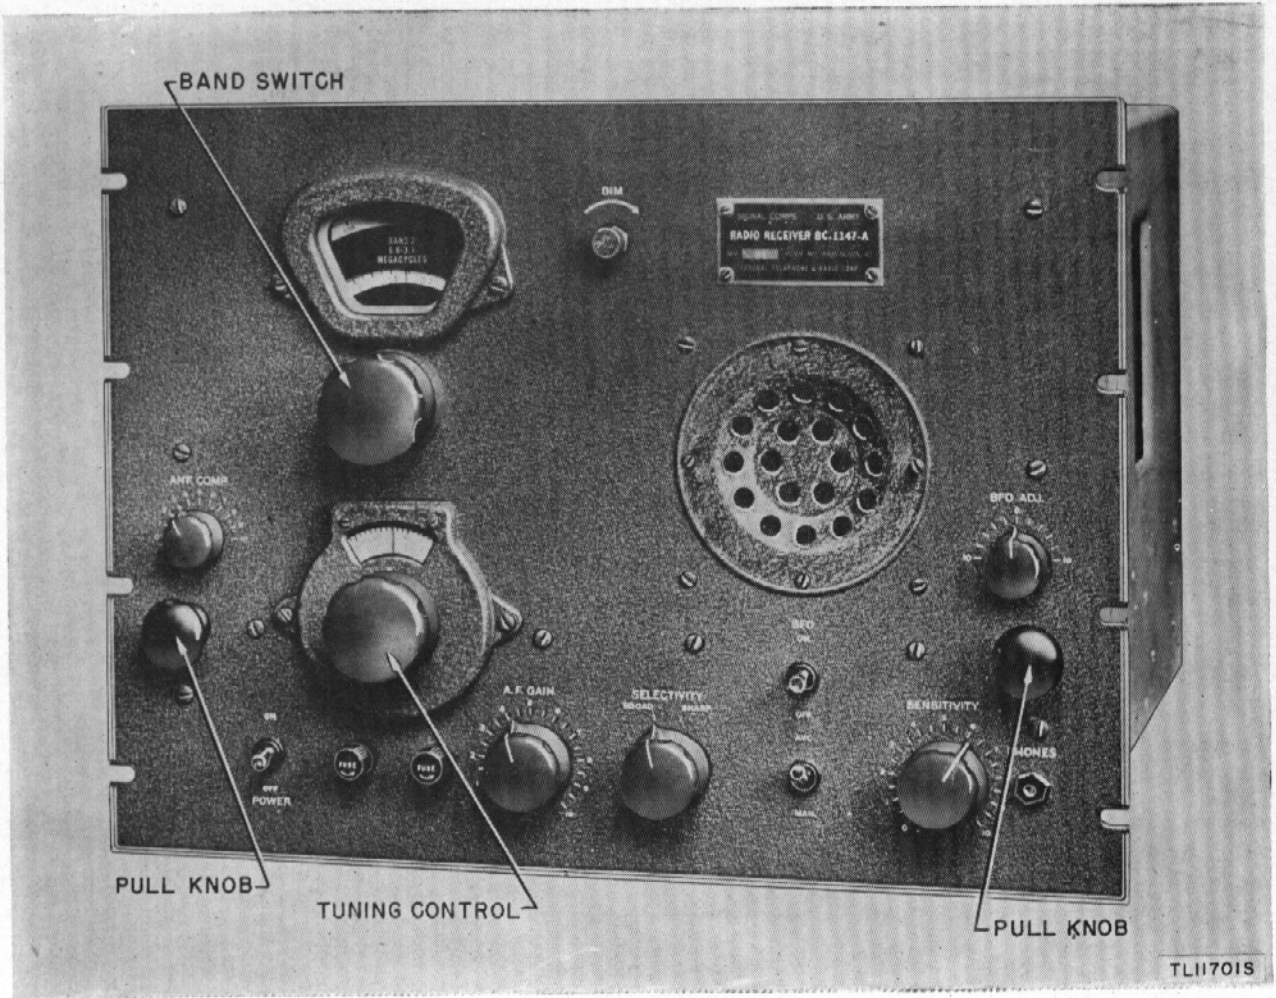

Figure 1. Radio Receiver BC-1147-(*), front view.
a. Radio Receiver BC-1147-(*) is a special purpose, four-band, thirteen-tube superheterodyne receiver designed for use in high-frequency (h-f) radio direction finding equipment, such as Radio Set SCR 291-A and Radio Set SCR 502. This receiver amplifies and rectifies the characteristic goniometer and antenna response for the indicator pattern control circuits associated with Bearing Indicator BC-1159. It also contains the conventional beat-frequency oscillator and audio circuits for reception of amplitude-modulated (a-m) signals. Loudspeaker and headphone outputs are used for stand-by service and simultaneous monitoring while taking bearings. The receiver is capable of receiving voice or continuous-wave (c-w) transmitted signals over the frequency range of 1.5 to 30 megacycles (mc). The frequency range is divided into four bands: 1.5 to 3.1 mc, 3.1 to 6.6 mc, 6.6 to 14.0 mc, and 14.0 to 30.0 mc. Figure 1 shows the front view of this receiver.